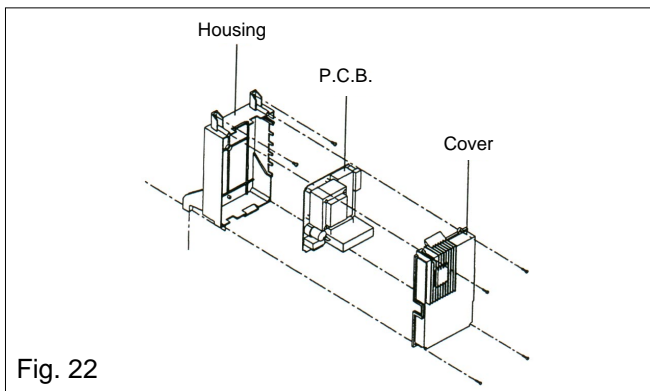

Fig. 22
6.10 PRINTED CIRCUIT BOARD (PCB) (see fig. 22)